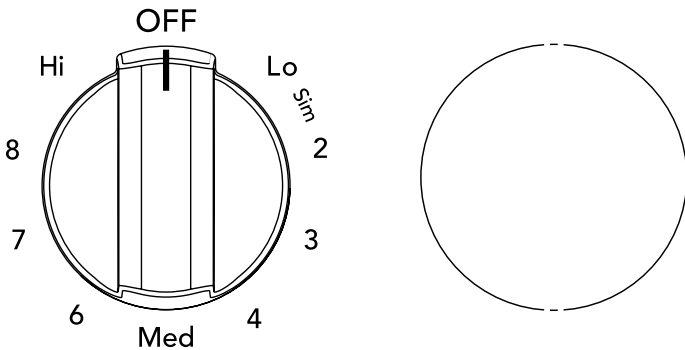

Figure 8: Radiant surface element
2. Push in and turn the surface control knob in either direction (Figure 8) to the desired setting (refer to the “Suggested radiant surface element settings” in Table 1).
Start most cooking operations on a higher setting and then turn to a lower setting to finish cooking. The surface control knobs do not have to be set exactly on a particular spot. Use the graphics provided as a guide and adjust the control knob as needed (see Figure 8).